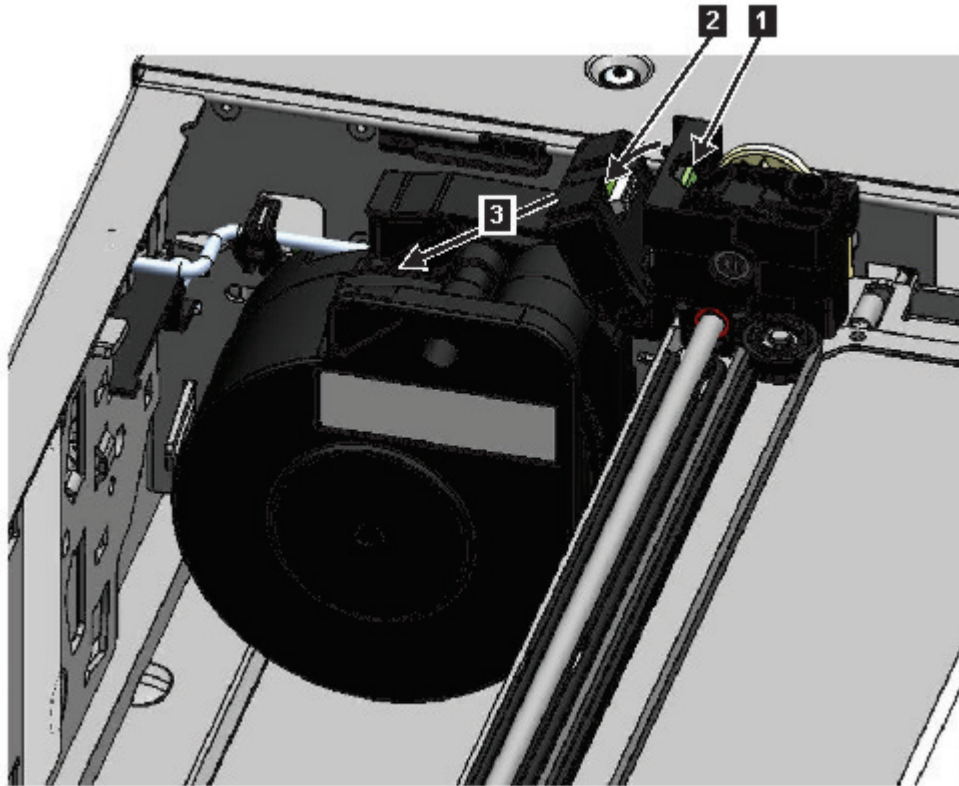

Figure 76. Unlocking the spooling cable and placing it in its cradle
7. On the top of the accessor where the spooling cable is attached, press down on the latch (**1** in Figure 76 on page 128), then tilt out the piece that holds the spooling cable (**2**).
8. Lift the spooling cable from the accessor and place it in its cradle at the top of the spooling mechanism (**3** in Figure 76).